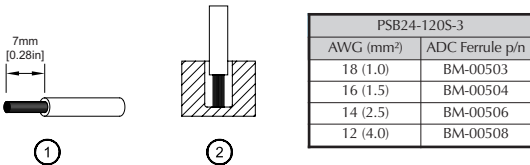

Figure 4
(1)	0.82 - 3.3	18-12	0.92	8.1
(2)	0.82 - 3.3	18-12	0.61	5.4
To secure reliable and shock proof connections, the stripping length should be 7 mm [0.28 in] (see Fig. 4 (1)). Please ensure that wires are fully inserted into the connecting terminals as shown in Fig. 4 (2). In accordance to EN 60950 / UL 60950, flexible wires require ferrules.